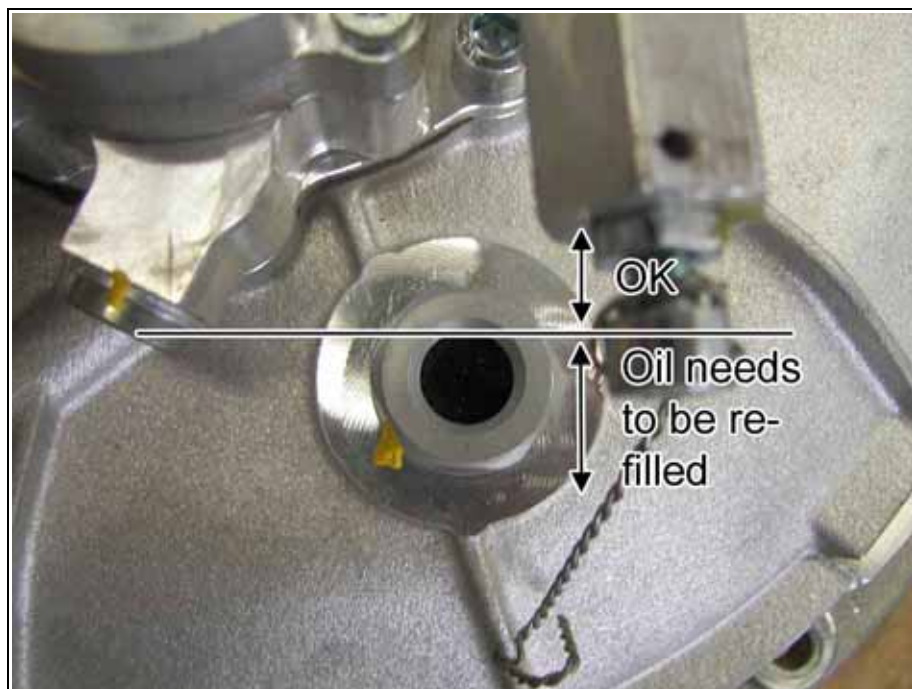

Fig. 6.24 Check the oil level
1. Check oil level through the inspection glass of the gearbox. The oil level must reach the top of the inspection glass, air bubbles must not be visible. See Fig. 6.24.
5. Fill in the new gearbox oil until the oil level reaches the top border of the oil level inspection glass (marking line in Fig. 6.24). Air bubbles must not be visible.